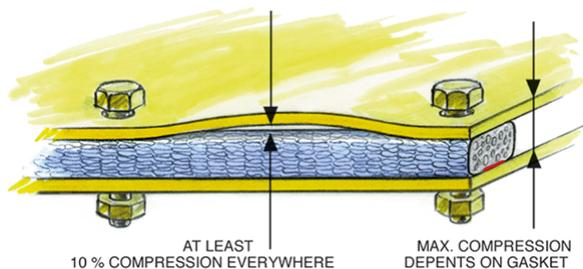

Figure 24.1 : Note that the pressing force on the panels of the housing is not too large
- **LEVEL III A** Seams (fig. 24.1) **26 / 32**